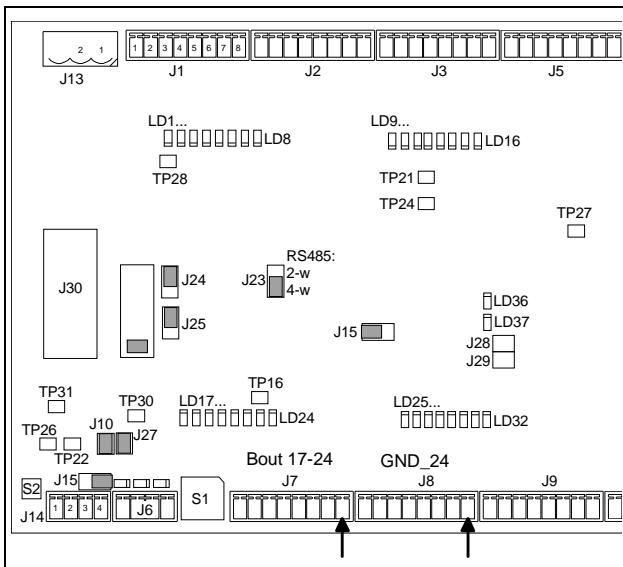

Figure 5. Control for valve 24 from Binary IO board.
- Connect a control cable to valve 24 from the Binary IO board (in module electronics box): BOUT +24 (J7/8) and GND\_24 (J8/8 or other free terminal in J8). Fig. 5.